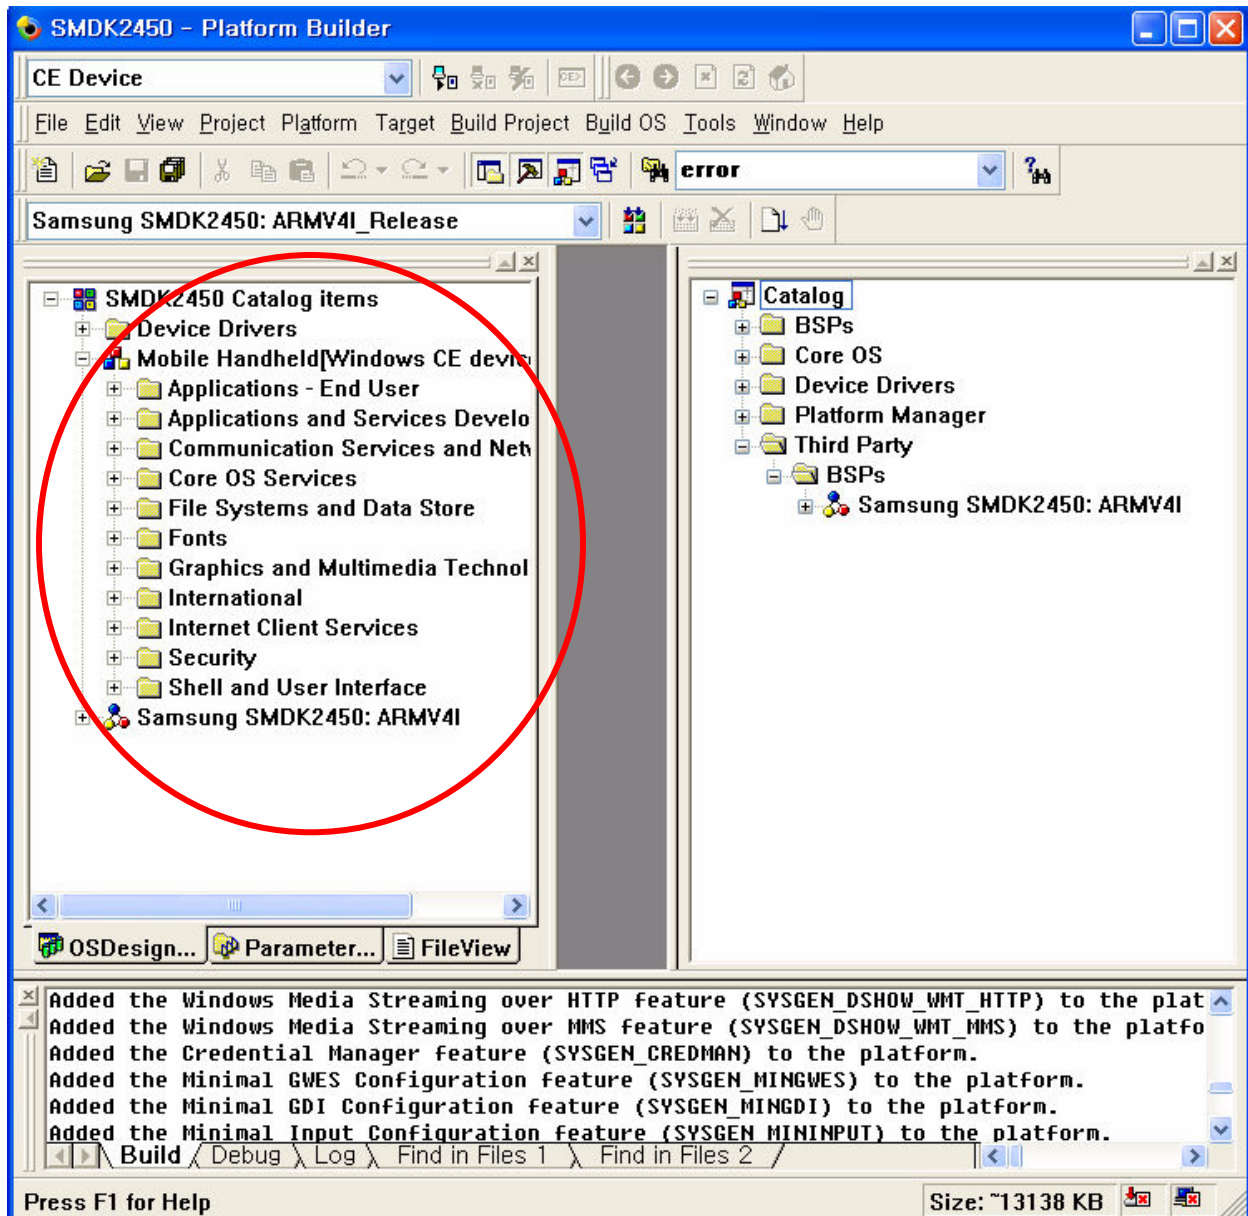

Figure 4-1 New Platform Items
1. In the **Platform Builder** window on your host PC, you can see the new platform created along with its various sub-directories on the left hand side as shown in figure 4-1.